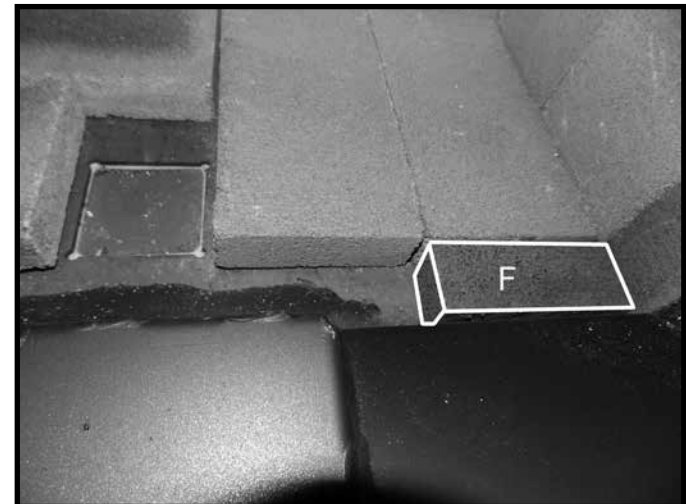
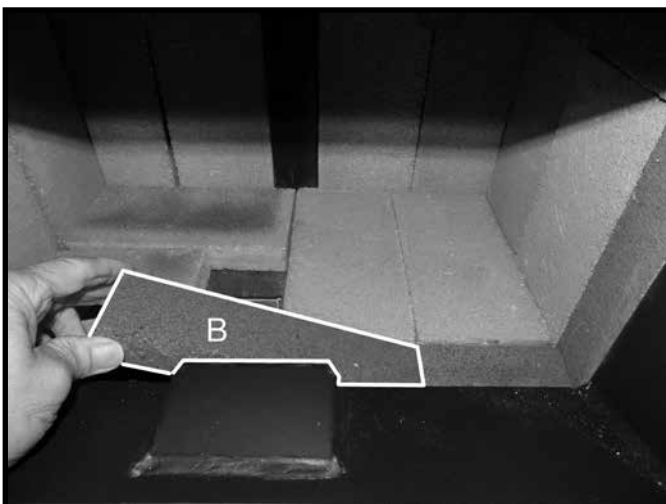
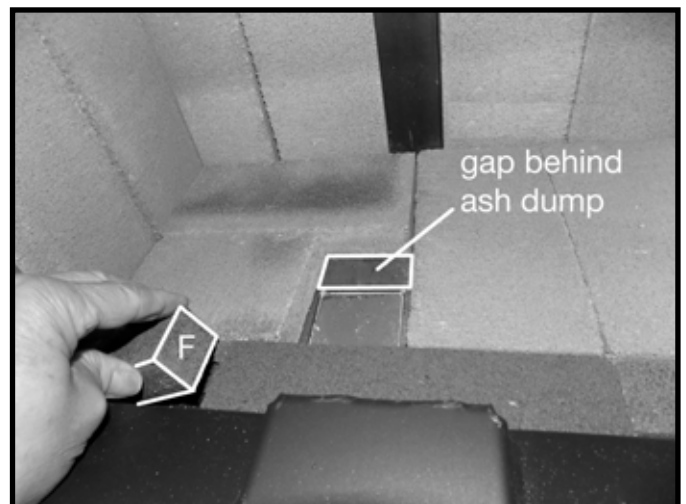

Figure 24. Short, narrow brick installed in front row.
Figure 25. Long, narrow center brick in front row.
Figure 26. Final short, narrow brick in front row.
9. Place a short narrow "F" brick against the front right side of the floor (Figure 24) followed by a longer "B" brick in the center of the front row (Figure 25). Finish with the last "F" brick placed against the left side front row (Figure 26). Note: There will be a gap remaining behind the ash dump.